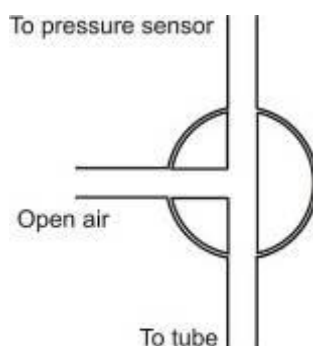

Figure 1: Three-way valve – Position A
2. (If your setup includes three-way valves) Turn the three-way valves to enable free air flow from the surrounding air (Position A – see Figure 1). The readings should now indicate the atmospheric pressure.